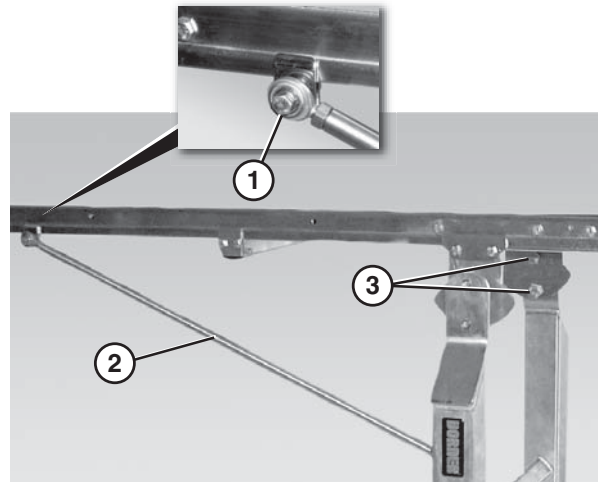

Figure 24
1. Loosen the screw (Figure 24, item 1) on the diagonal brace (Figure 24, item 2), if applicable.
2. Loosen the bracket screws (Figure 24, item 3) on both sides of the stand.
4. Tighten the bracket screws (Figure 24, item 3) to 50 ft•lb (72 N•m).